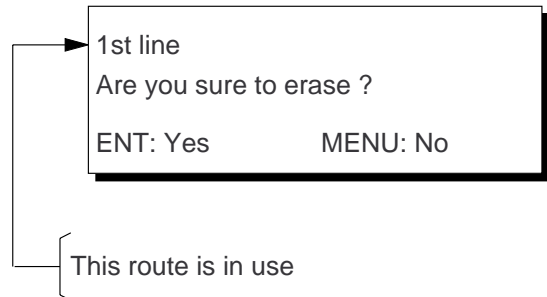

Figure 4-17
- 3) Press the [CLEAR] key. The display shown in Figure 4-17 appears if the route is in use.